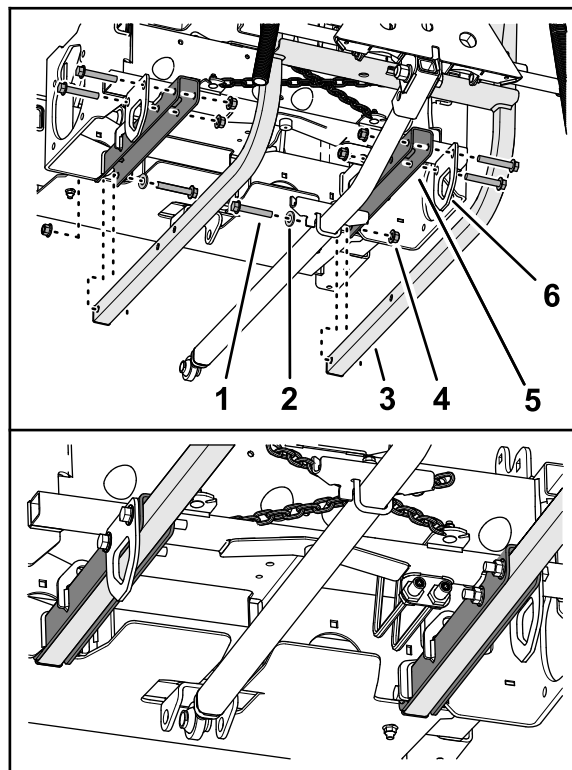

Figure 12
4. Lift the back of the rear attachment lift frame to align the holes in the lift-frame tubes with the holes in the channels of the rear frame (Figure 12).
5. Align the tie-down plates to the outside of the rear attachment lift frame and the thrust washers to the inside as shown in Figure 12.